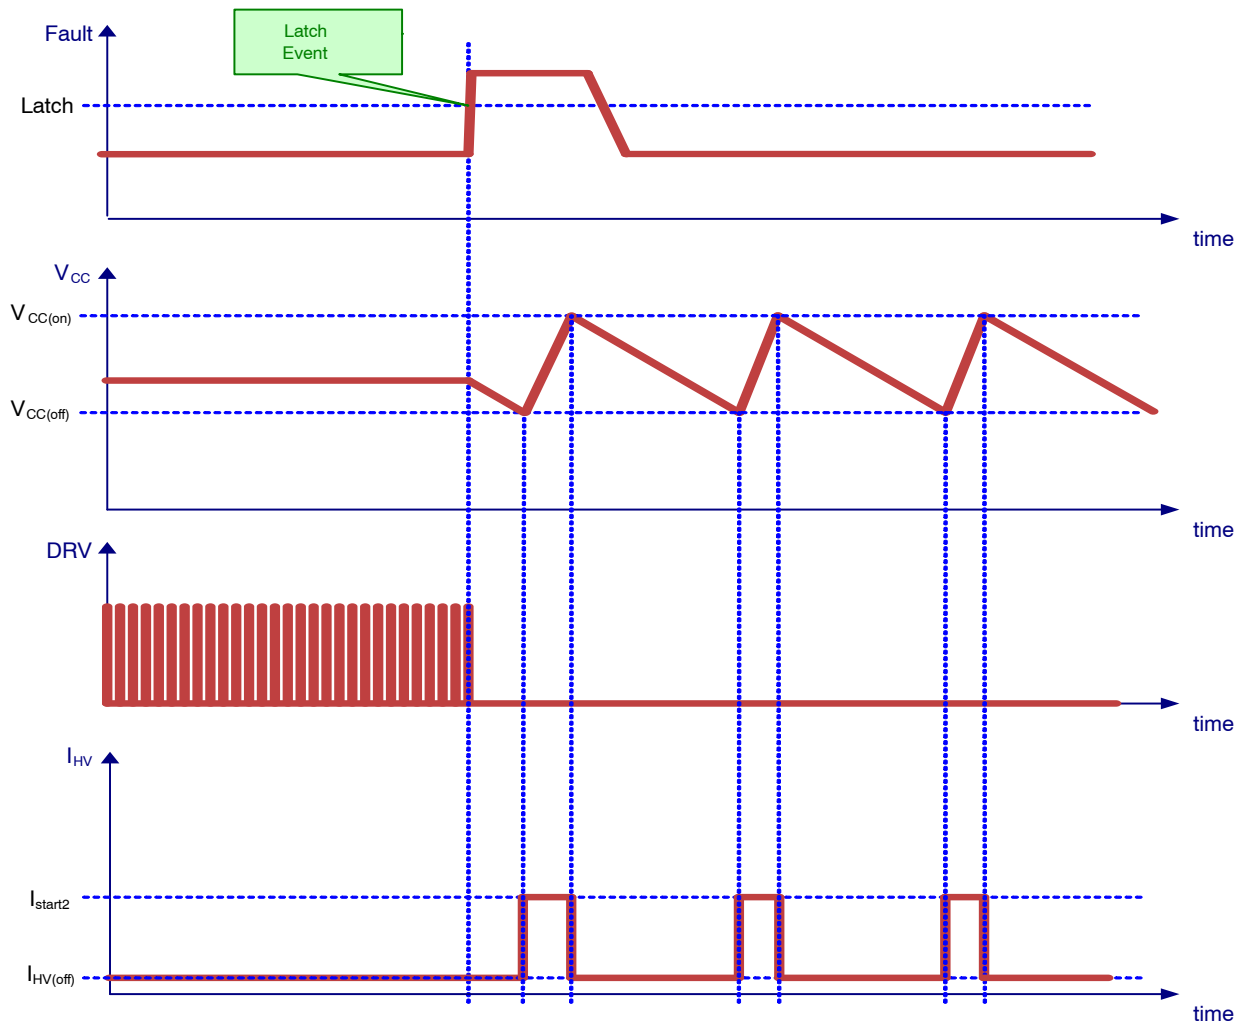
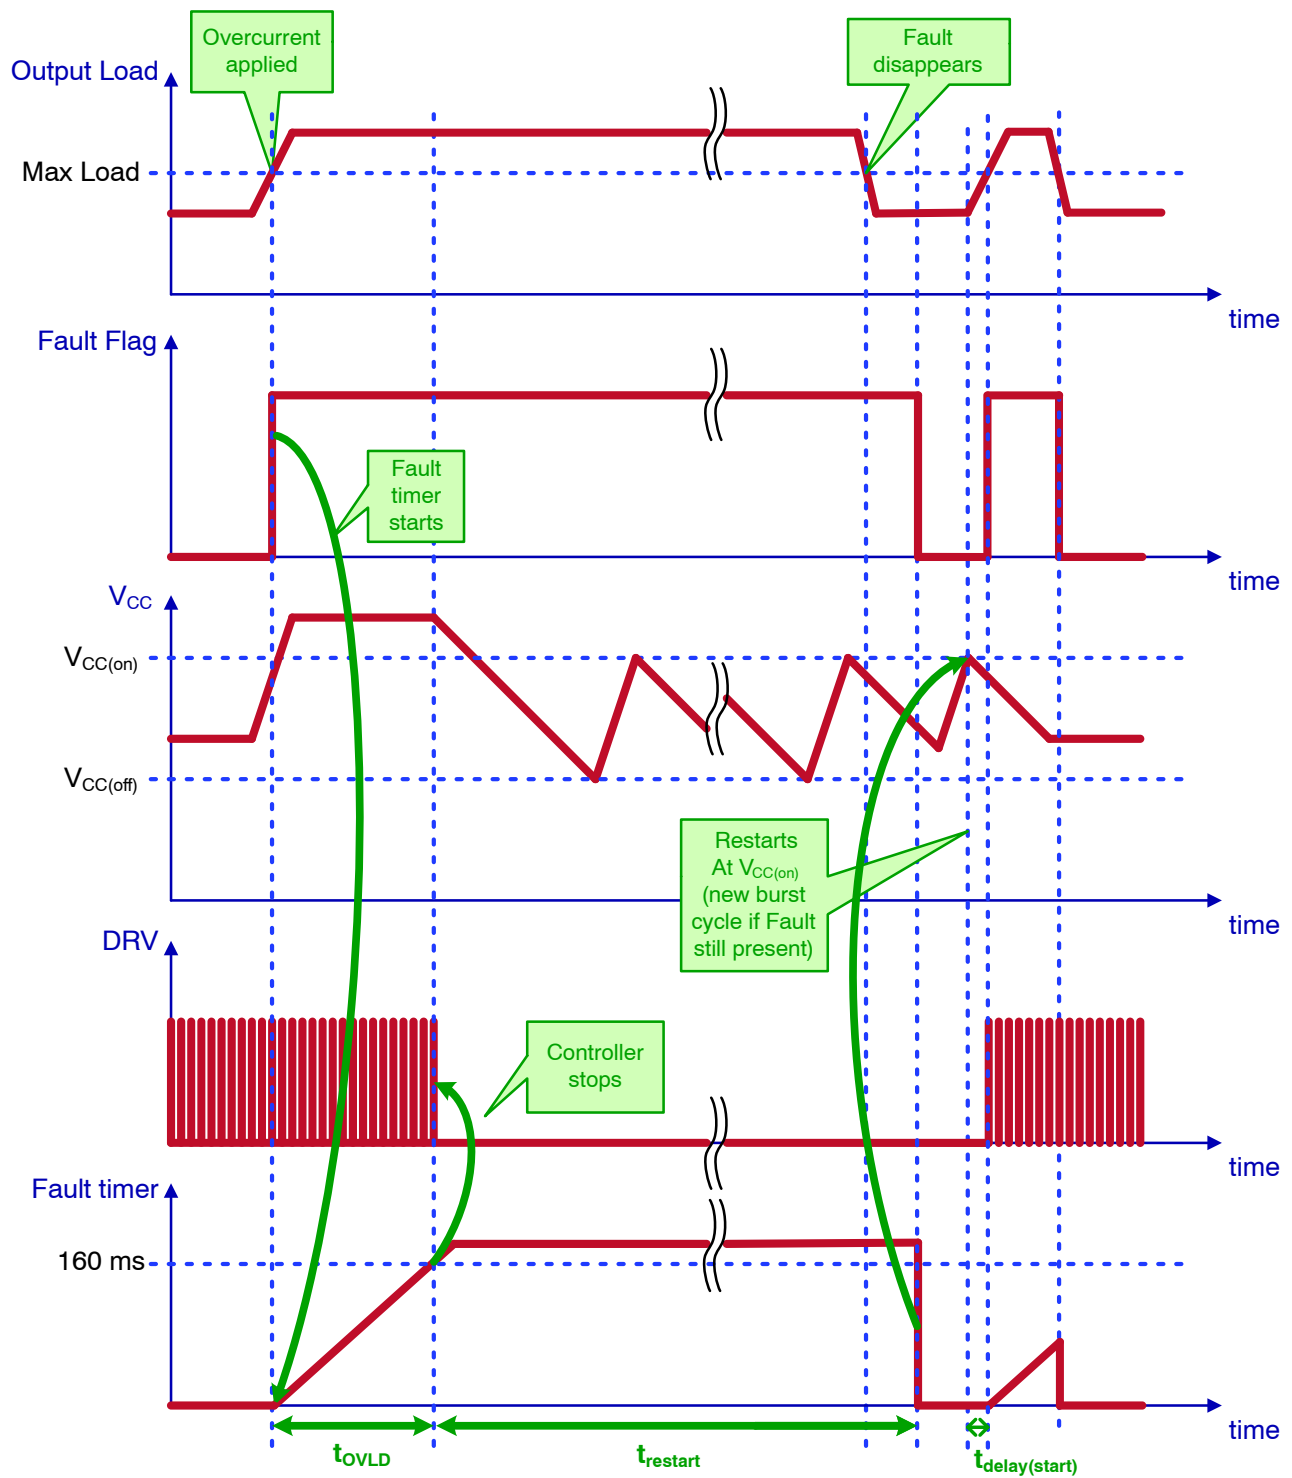

Figure 25. Latched Overload Operation
Figure 26. Auto-Recovery Overload Operation
- Figure 24 shows the overload circuit schematic, while Figure 25 and Figure 26 show operating waveforms for latched and auto-recovery overload conditions.